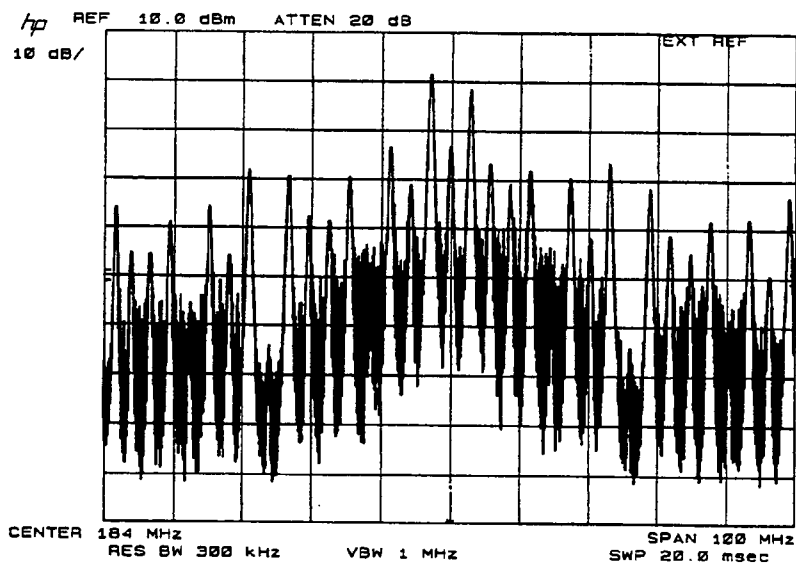

Figure 5-22. Example of a bad serial test spectrum
15. Sometimes when the frequencies of the clock and data signals are changed, the phase relationship is such that a noisy signal is produced. This may look like Figure 5-22 below. Before this is determined to be a failure, the phase must be adjusted over a range to see if a clean spectrum can be produced. Use the Vector Signal Generator's 10 MHz Phase Adjustment special to control the relative phase between the data and clock signals. Press the following keys: **SPECIAL** **13** **ENTER SPCL** (MHz) **5** **DEG** (dBm). This increments the Vector Signal Generator's phase by 5° relative to RF signal generator.